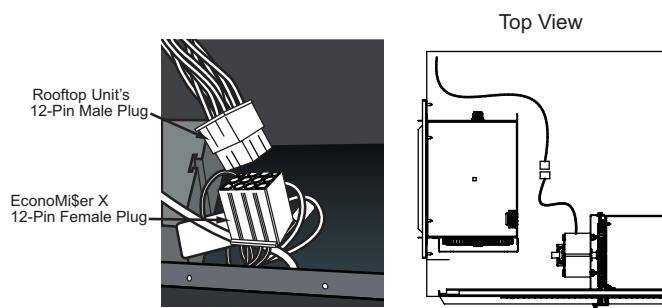

Fig. 5 — Connect EconoMi\$er X Harness to Unit PL6 Economizer Harness
9. Remove and save the 12-pin jumper plug from the unit economizer harness located in the upper left corner of the unit. Insert the EconoMi\$er X plug into the unit wiring harness. (See Fig. 5.)